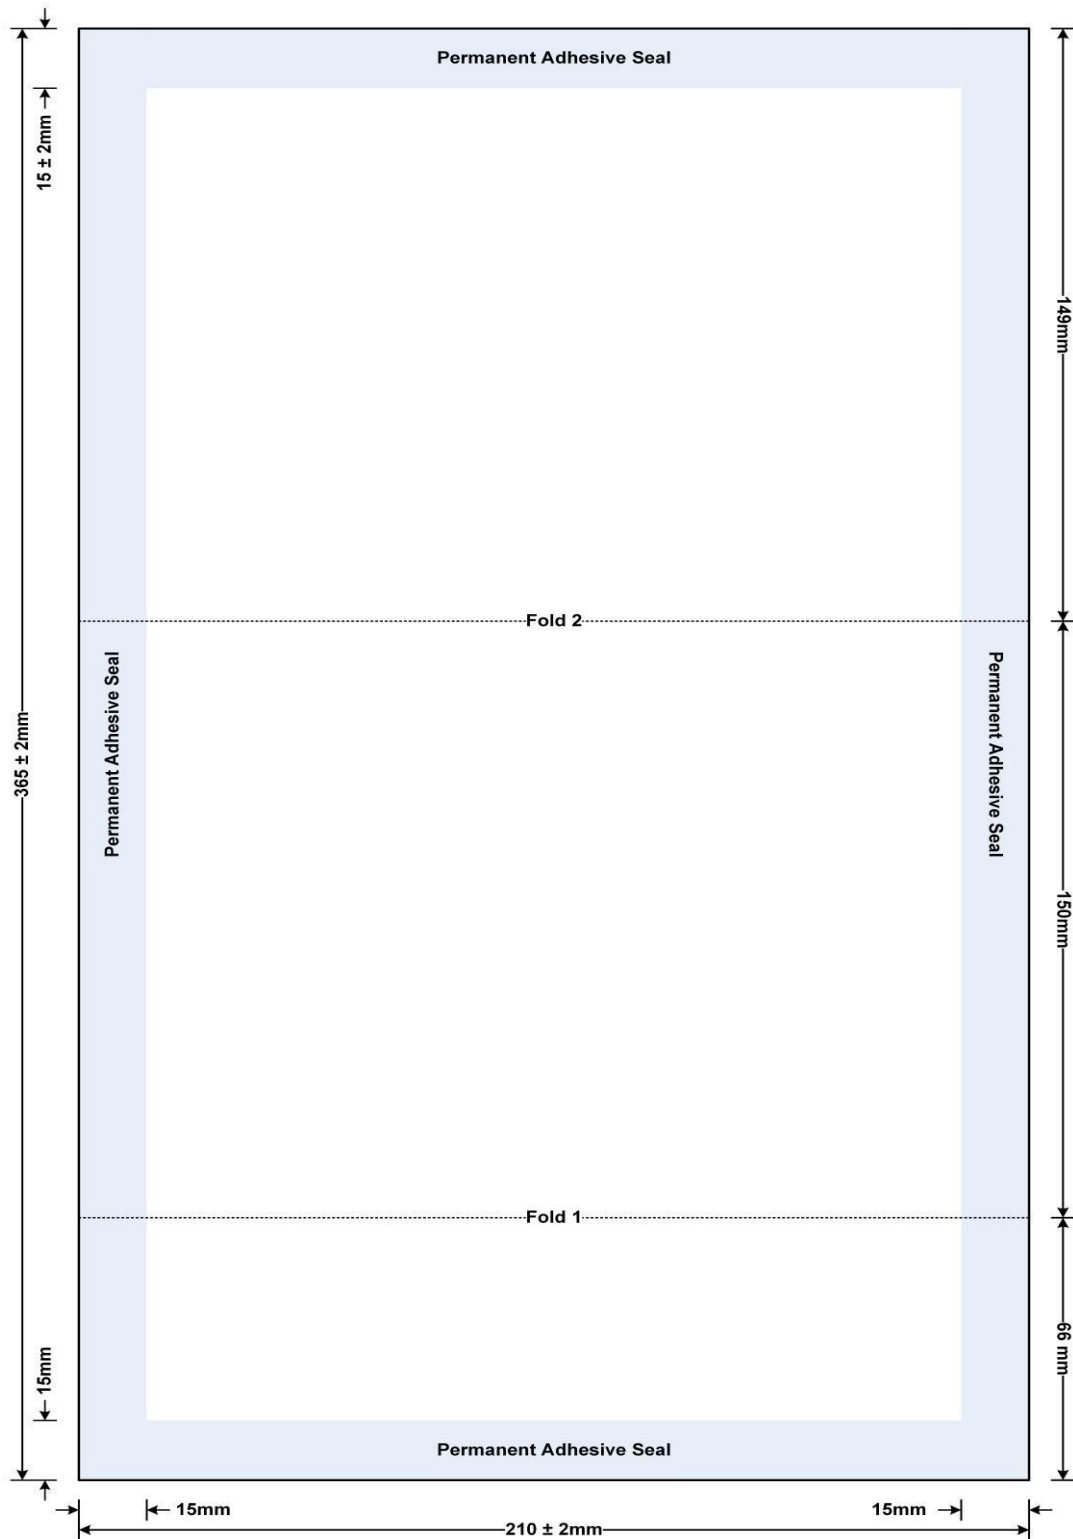

Figure 44: Physical Construction
2. The paper must be folded such that the first fold creates an internal flap that is 66mm deep (a manufacturing tolerance of plus or minus 2mm is permitted). The second fold must form another flap that covers the internal flap and ends 1mm short of the bottom (reference) edge. This is illustrated in Figure 42 and Figure 44.